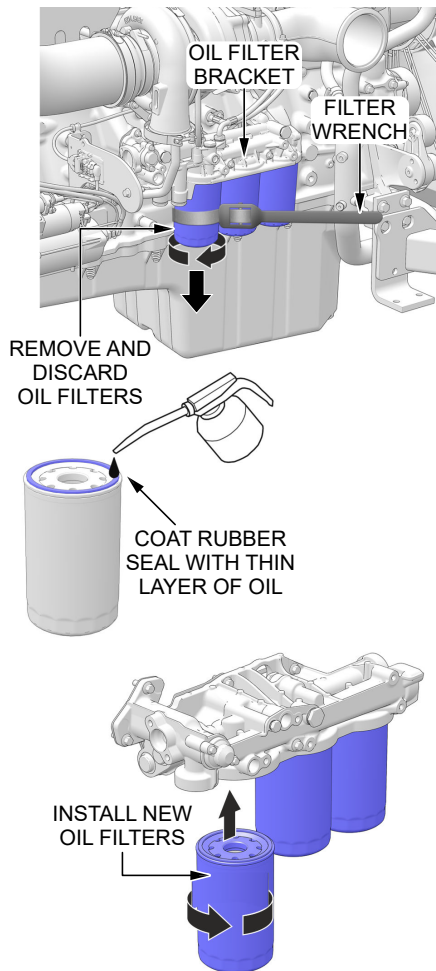

Figure 62. Oil Filter Replacement
1. Clean the area around the **oil filter bracket** (Figure 62).
2. Using a **filter wrench**, remove all engine oil filters (Figure 62).
4. Coat the rubber seal (gasket) surface of the new oil filters with clean 15W-40 engine oil (Figure 62).